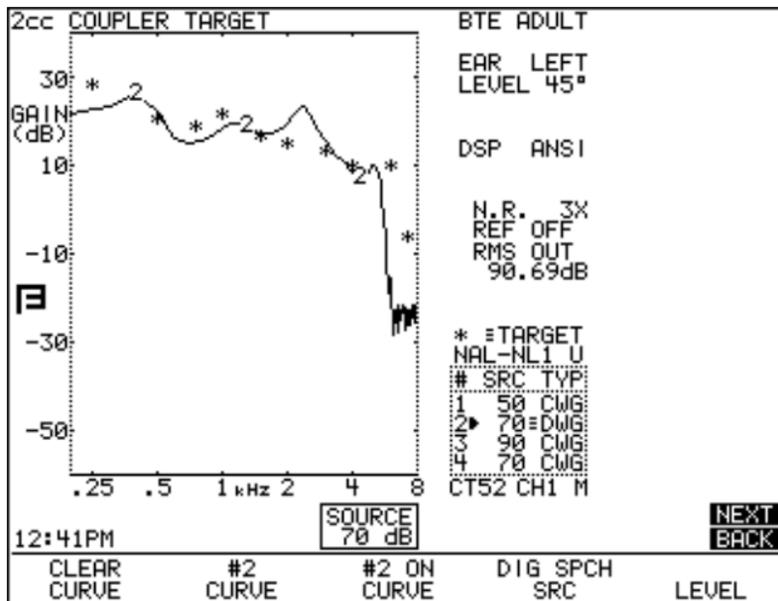

Figure 5: Measurements in the Coupler Target screen.
7. Press [F3] to enter the Coupler Multicurve screen and then press [NEXT] to enter the Coupler Target screen. In the Coupler Target screen, the real-ear targets are converted into coupler targets that can then be compared directly to coupler measurements. *See Figure 5.*